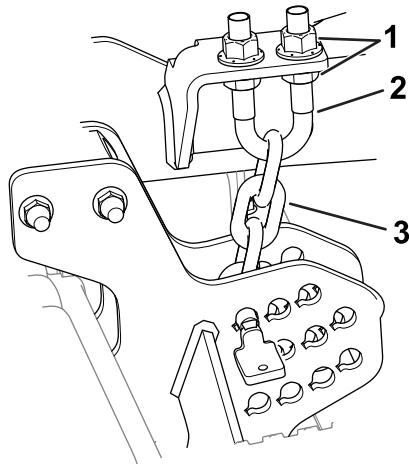

Figure 6
6. Loosen the lower jam nuts on the height-of-cut chain U-bolt (Figure 6).
7. Adjust the nuts (Figure 6) to raise or lower the rear of the cutting unit so that the tips of the rear blades are 6 to 10 mm (1/4 to 3/8 inch) higher than the front tips.